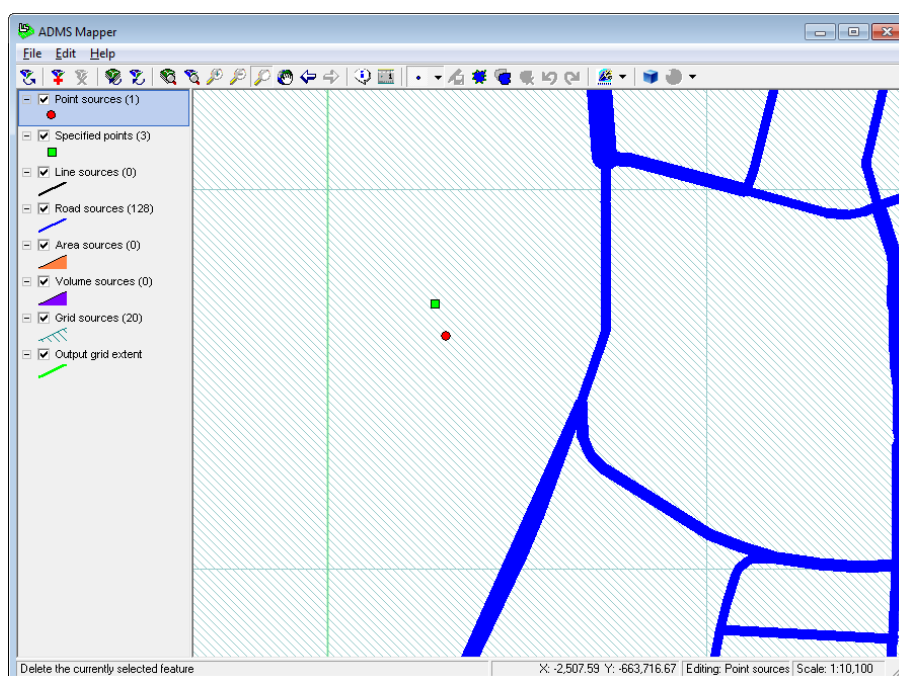

Figure 7.22 The newly added point source.
- Step 8** Click the screen at the point where you would like to add the new point source, place it slightly to the south of the Monastery receptor point as shown in **Figure 7.22**. Upon clicking to create the new point source, the ADMS-Urban interface will become active and the **Industrial sources** section of the **Source** tab will display the newly created point source.